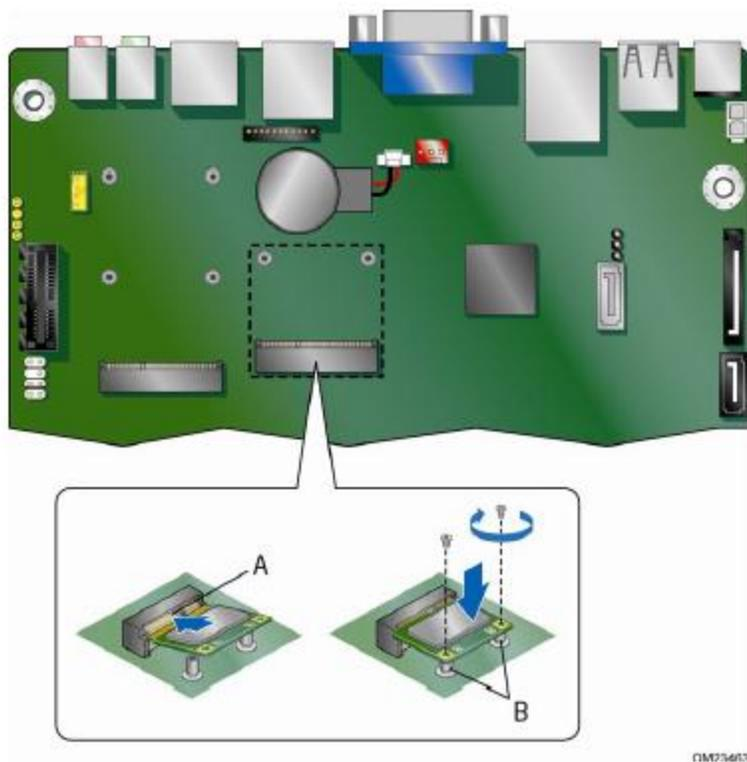

Figure 24. Installing a PCI Express Mini Card in the Half-Mini Card Slot
To install a PCI Express card in this slot, see Figure 24 and follow these steps:
3. Insert the card into the PCI Express Mini Card connector (see Figure 24 → A) at a slightly upward angle.
4. Align the mounting holes and secure the card in place (see Figure 24 → B).